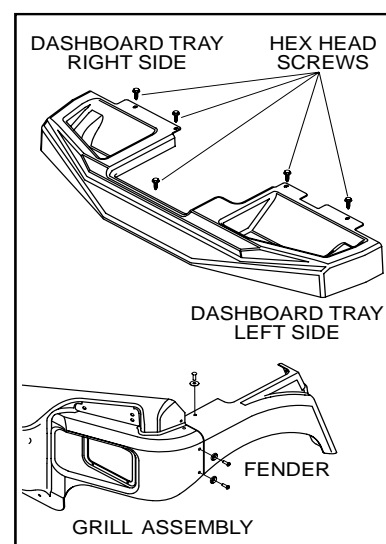

Figure 7
The dashboard tray is mounted underneath the hood (Figure 7). The tray can be used to store items when operating the machine.
1. Remove two upper button head screws and washers from the fender and grill assembly mount (Figure 7). See the section entitled Fender for additional information.